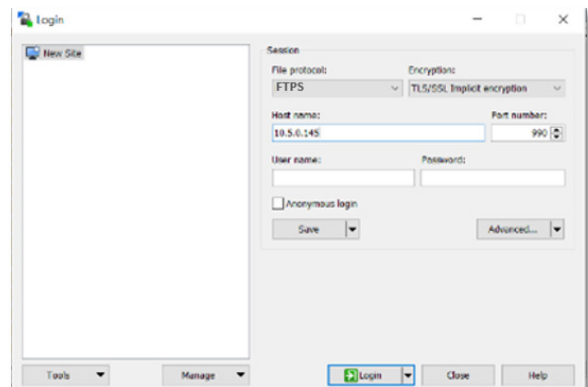

Figure 53: Enter the Digital Analyzer's IP address in the FTPS client connection.
1. On a Windows computer, launch the FTP-supported client and start a new session connection with the Digital Analyzer IP address or serial number as shown in **Figure 53**. Ensure the following settings are equivalent in the FTPS client being used: Protocol = FTPS, Encryption = TLS/SSL implicit, Port = 990